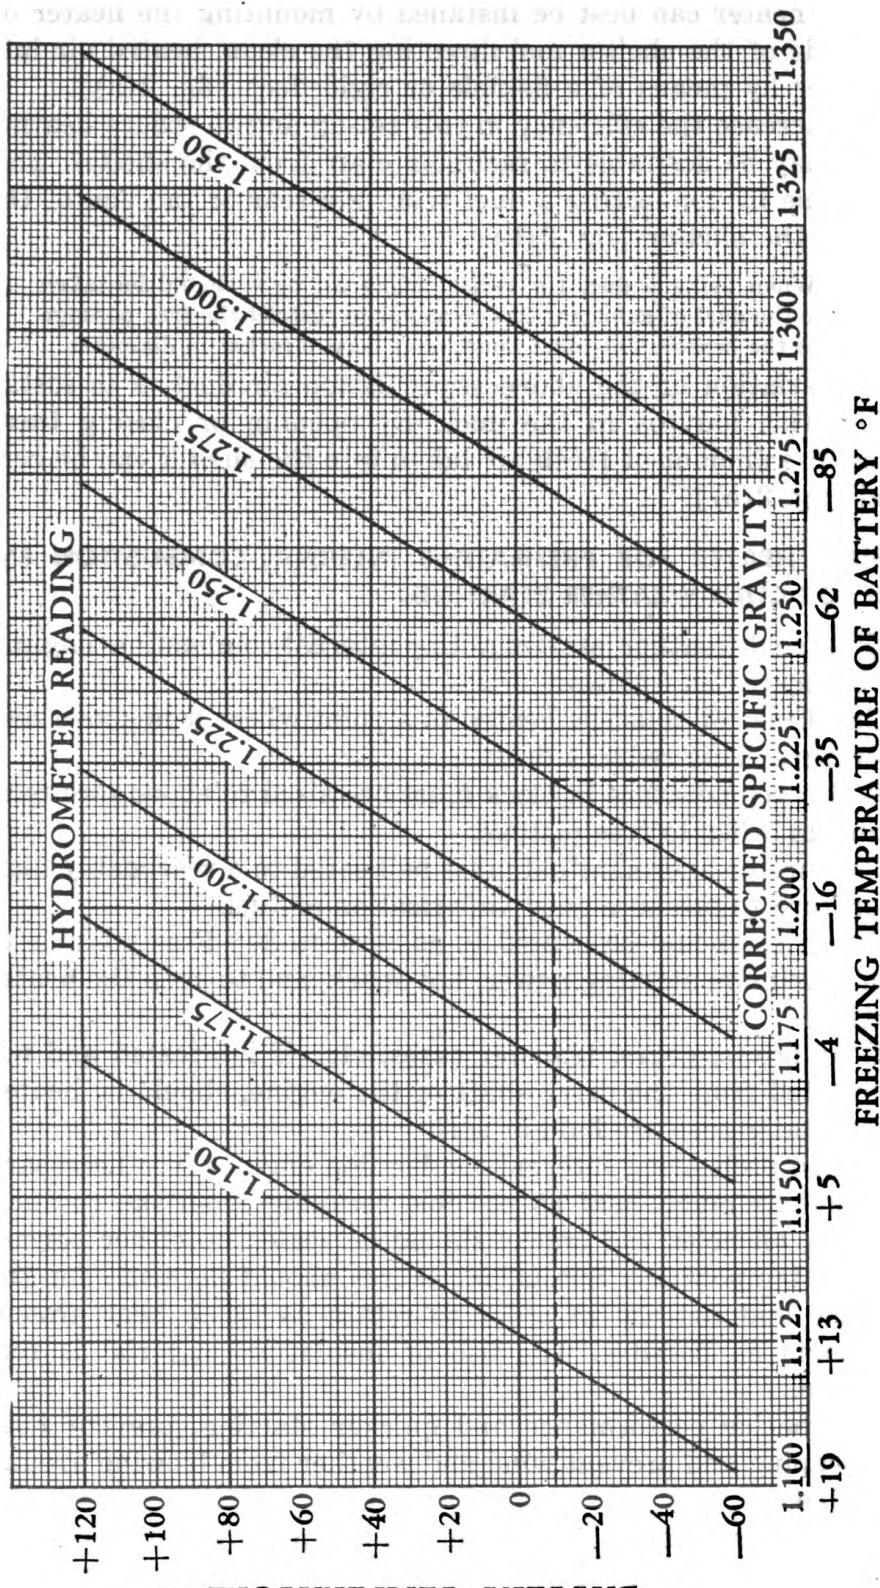

Figure 3. Battery-correction chart.
b. Figure 3, battery-correction chart, shows the freezing temperature of batteries versus the apparent specific gravity as determined by a hydrometer and the specific gravity corrected for temperature.
c. The following is an explanation of how to use the battery-correction chart (fig. 3).
(1) GENERAL. The figures on the left-hand side of the chart are battery-temperature readings at time of hydrometer reading. The diagonal lines on the chart are the specific gravity readings of the battery as read with a hydrometer. The figures at the bottom of the chart give corrected specific gravity readings of the battery and the freezing temperature at each specific gravity reading.
(2) HOW TO USE CHART. Take temperature and hydrometer reading of battery using the left-hand figure on the chart, follow straight across the correct battery temperature line until you come to the hydrometer reading as taken. Then, at this point, follow straight down to the bottom of the chart and you will find the corrected specific gravity reading and the freezing temperature of the battery.
(3) EXAMPLE. Suppose you are checking a battery and get the following information: